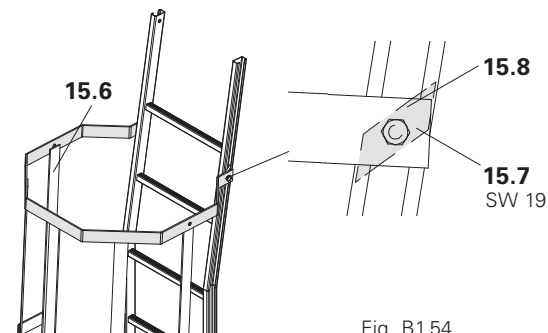

Fig. B1.54
2. Loosen bolts SW 19 (15.7) (4x) on clamping plate (15.8), position clamping plate on the ladder longitudinal members, and tighten screws. (Fig. B1.54)